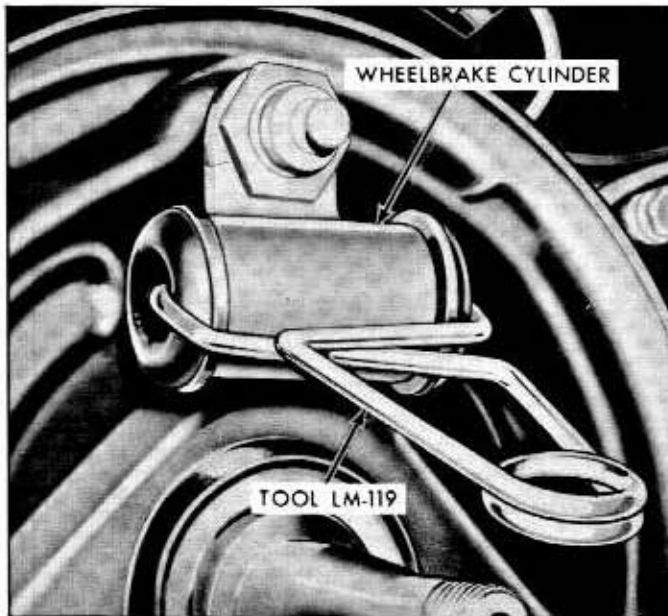

Fig. 2-8—Wheel Cylinder Clamp Installation—Typical—(60C-2008)
1. Remove the wheel and tire, then remove the drum, and install a clamp, Tool LM-119, over the ends of each brake cylinder. Refer to "Brake Drums" for proper removal procedure. See figure 2-8.
2. Place a clamp, Tool LM-119, over the ends of the brake cylinder. Refer to figure 2-8.